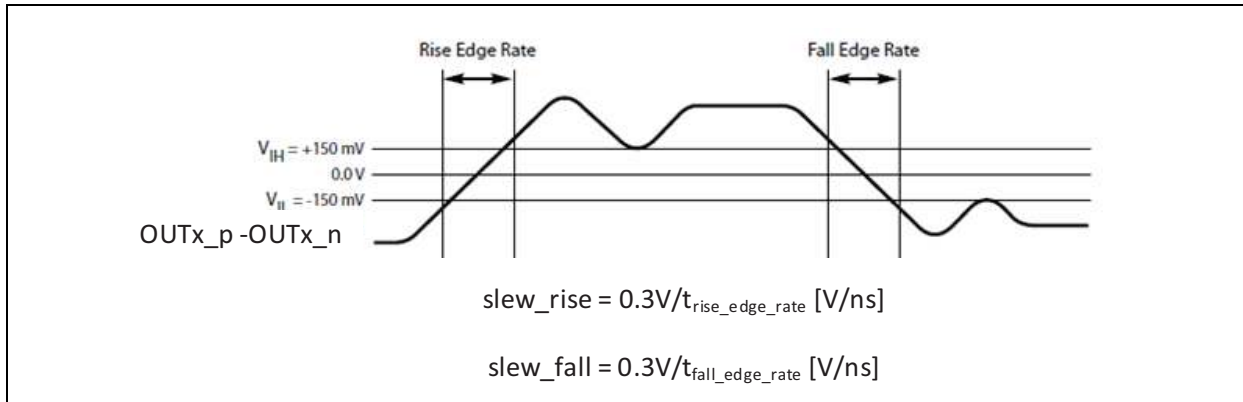

FIGURE 4-4: Differential Measurement Points for Rise and Fall Time.
- 4:** Measured from –150 mV to +150 mV on the differential waveform (derived from CK minus CK#). The signal must be monotonic through the measurement region for rise and fall time. The 300 mV measurement window is centered on the differential zero crossing. See Figure 4-4.